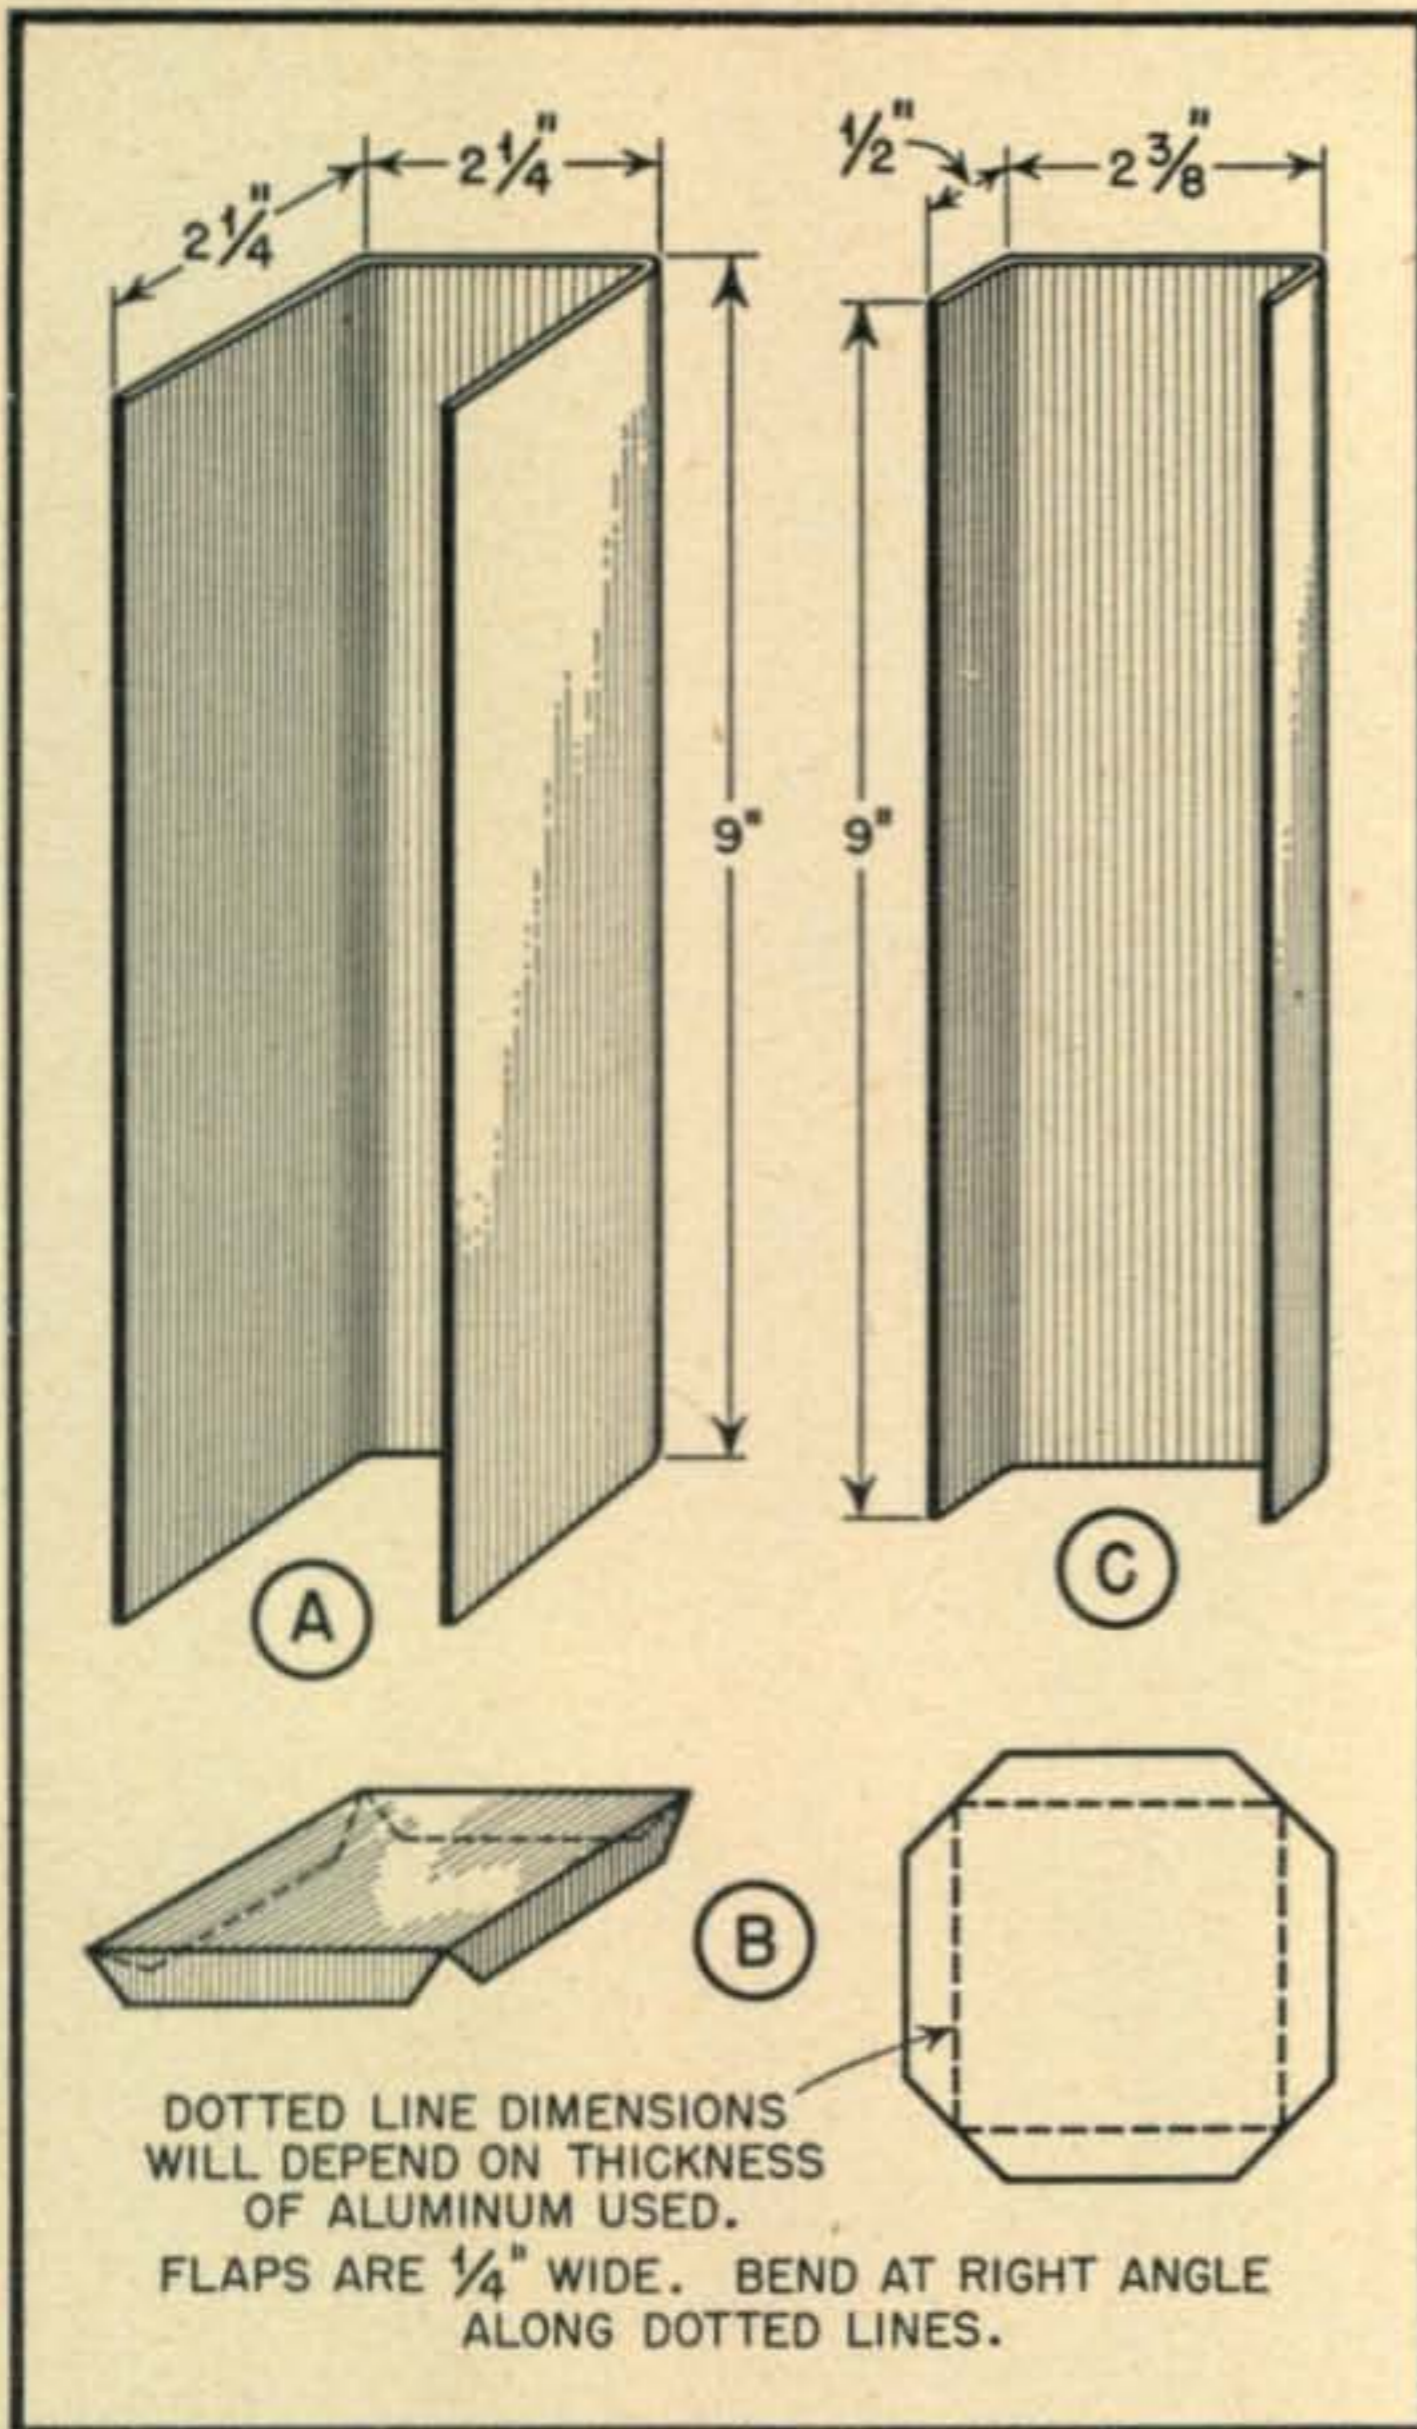

Fig. 2. Mechanical details of the "cabinet." Dotted lines in B will vary with the gauge (thickness) of the aluminum sheeting.
Batteries offering no problem, the dimensions of the case are reduced to the minimum necessary to provide six and one-half inches, center to center, between the 2000 ohm phone and the single button mike. The case is made of sheet aluminum, held together by self-tapping screws. Dimensions are shown in Fig. 2. The phone and mike are mounted on the left side of (A) while the pencil cell mike battery is clamped to a fuse clip on the inside. All leads are cabled over to the cover of the case. Two pieces, shown in (B) are permanently mounted on (C). The bottom piece mounts the octal socket, while the top section contains the antenna feed-through insulator.